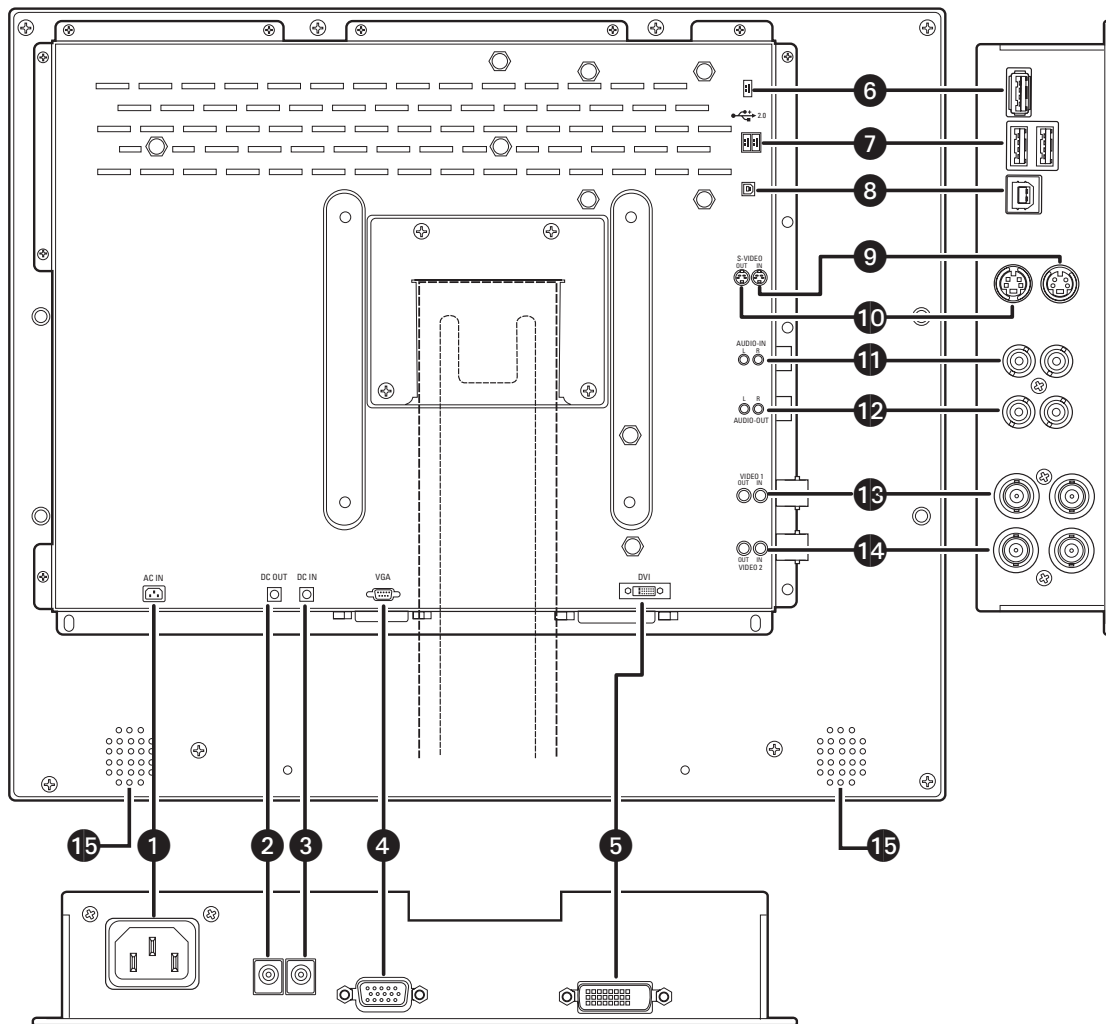

Figure 2. Rear Panel Connectors
Refer to Figure 2 for video, audio, power, and other connections.
2. Connect peripherals, as desired. Connect USB cables to the downstream USB ports on the back of the monitor (refer to callout numbers 6 and 7 in Figure 2.)
3. Connect to a PC, as desired. Connect a USB cable (supplied) to the upstream USB port on the back of the monitor (refer to callout number 8 in Figure 2.)